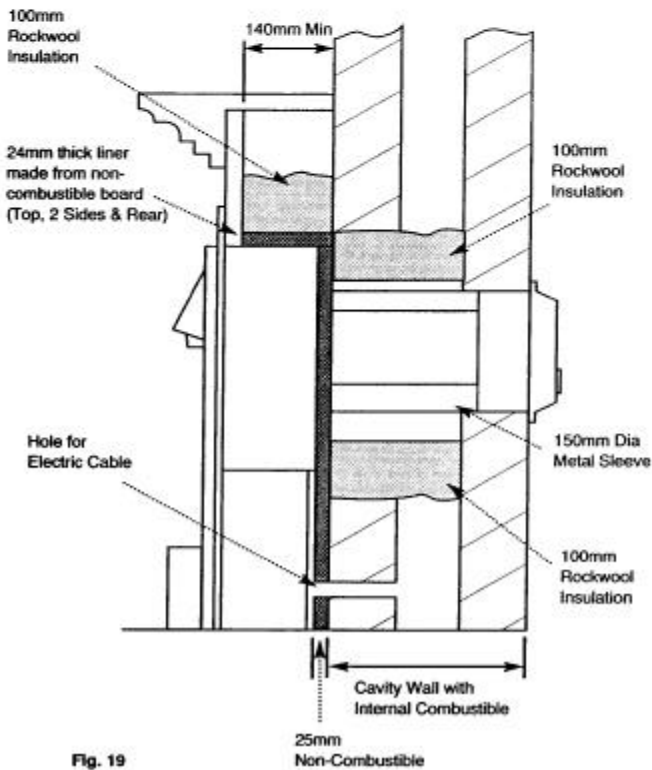

Fig. 19
9. This installation requires a 150mm diameter piece of single wall flue pipe or similar for use as a metal sleeve (Fig. 19).